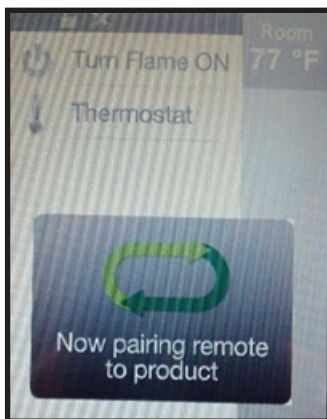

Figure 8 Pairing Remote
**Note:** During re-pairing, some versions of the RC400 may display ‘Now pairing remote to product’ before the being able to reach the diagnostic menu on remote. This message will impair the ability to access the pairing ICON button. See Figure 8.
4. Locate the pairing hole on the IFT-ECM. See Figure 8. Using a paper clip or similar item, press and release the pairing button. The IFT-ECM will “beep” once and the green LED blink for 14 seconds. During the 14 seconds, it is normal for accessories such as lights or fan to energize momentarily.